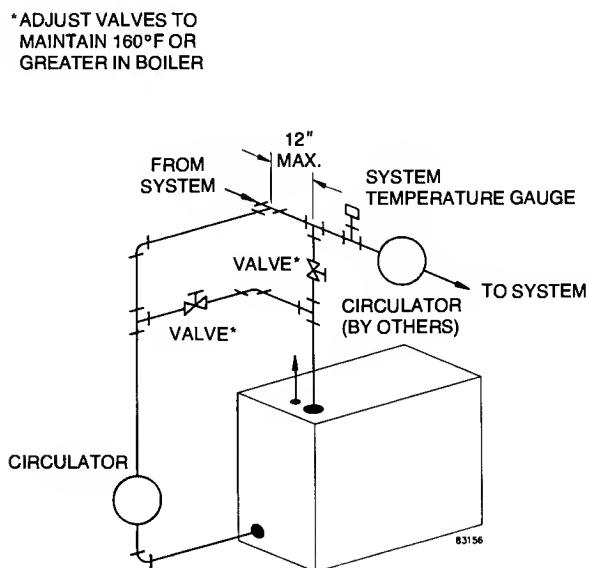

FIGURE 16
3. To protect boiler from condensation while protecting system from high water temperatures, as in large water content radiant ceiling panels, see Figure 16.